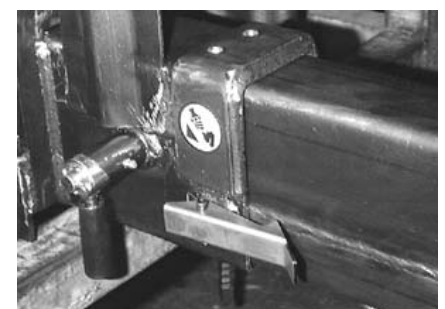

fig. 9b
- Position the lever **B** downwards; the spring loaded security pin remains released. (Fig. 9b)